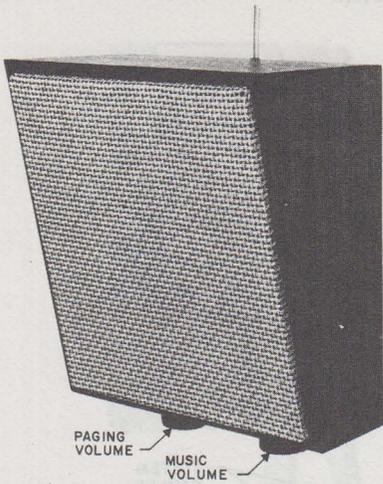

FIGURE 9. 109 A LOUDSPEAKER SET
- 3.10 If background music is provided adjust the volume control of the 33A voice coupler to mid-range. Then, adjust the right-hand volume control(s) on the loudspeaker(s) to the desired music level (Figure 9). The volume control of the 33A voice coupler may be readjusted if necessary to raise or lower the overall music level.
- (1) At any telephone set, depress an idle IC button and the DSS button that corresponds to the 109A loudspeaker set (if background music is provided it will be muted). Speak into the transmitter and adjust the volume control to the level desired by the customer (Figure 9).